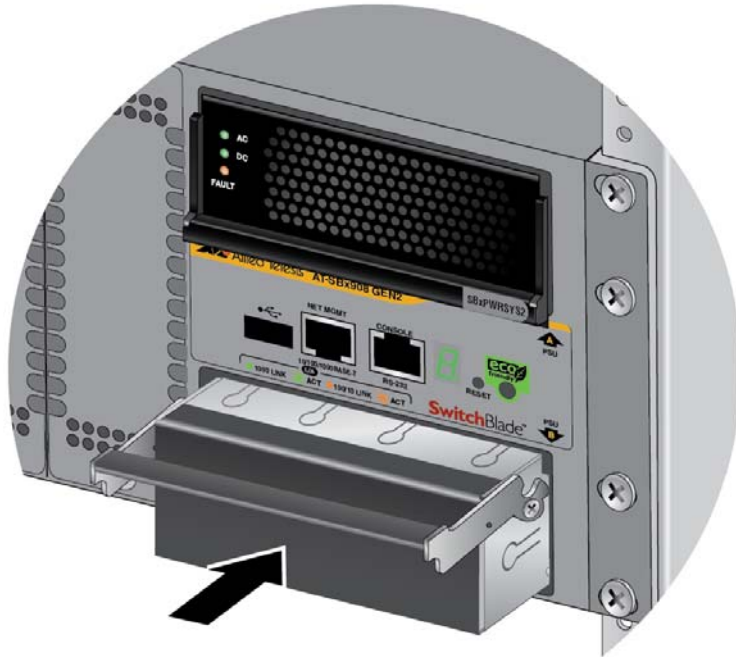

Figure 44. Aligning the Blank Power Supply Cover in the Slot
2. Align the cover in the empty power supply slot and carefully slide it into the slot. Figure 44 on page 76 shows the cover being installed in the PSU B slot.